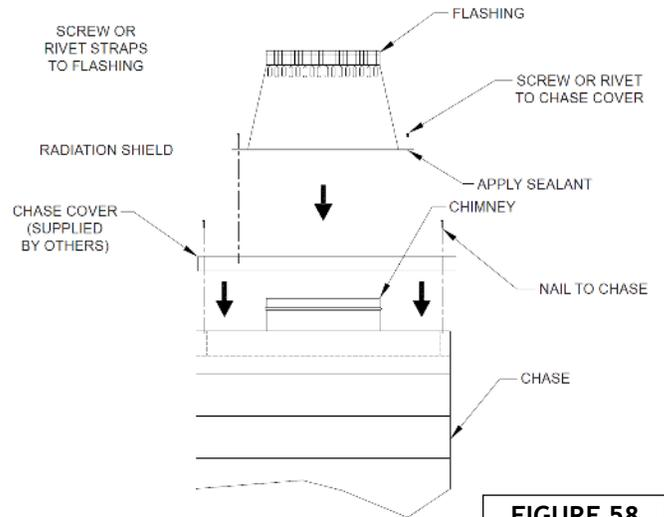

FIGURE 58
9. For chase enclosures, there must be a minimum of 2” of air space between the outer wall of the chimney and the enclosure. To install the chase top cover (supplied by others) to the chase enclosure. Cut a hole in the chase top cover the same diameter as the base of the cone on the flashing. Attach the Flashing to the top of the chase cover, sealing with a non-hardening waterproof sealant. Secure in place with screws or rivets. CAUTION: do not caulk or seal the ventilated openings of the flashing (**Figure 58**).